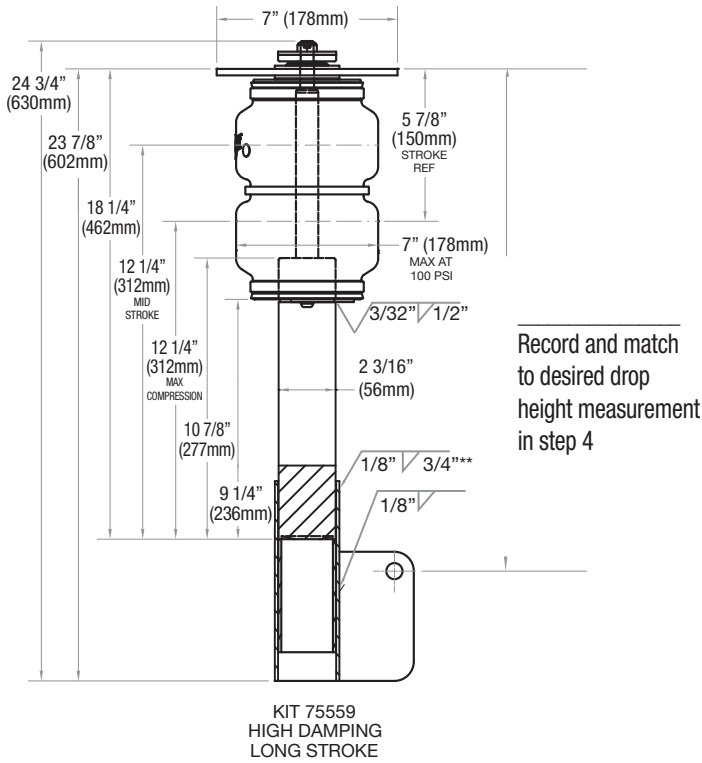

fig. 8a
4. Measure the desired drop height at the mounting points (top spindle bolt center and top of upper mounting bracket). Depending on the kit (75561 long stroke or 75562 short stroke) add 5 7/8" (150mm) or 4 3/8" (112mm) to this height (5 7/8" or 4 3/8" is the stroke of the air spring-over-strut that will be measured later). Record this height for later use in either figure 8a, 8b or 8c on the corresponding kit drawing.
13. Tack weld the modified spindle tabs (N) to the adapter tube (M). Tack weld the adapter tube and air spring collar (O) to the strut, ensuring the holes line up with the air spring mounting holes. Quench welds in water immediately.
15. Insert the assembly into the vehicles mounting points and trial fit. Verify that your design is correct before finish welding (see Figs. 8a-8c for welding requirements). Check for air spring clearance by measuring at the spring's maximum diameter (make sure to check clearances at intended ride height and full steering lock in both directions). Any rub or contact will cause premature wear of the assembly. If applicable, check stabilizer tab location, brake line location etc. Remove the strut assembly from vehicle when the design is verified.